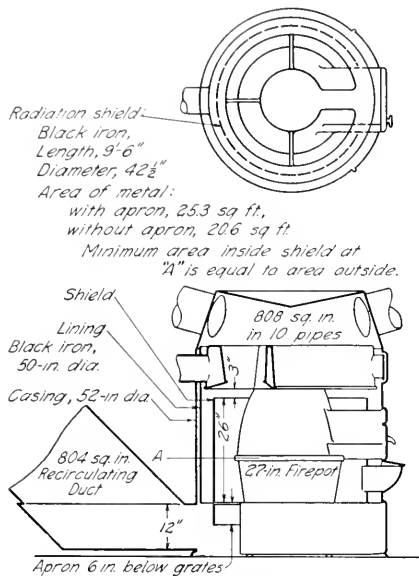
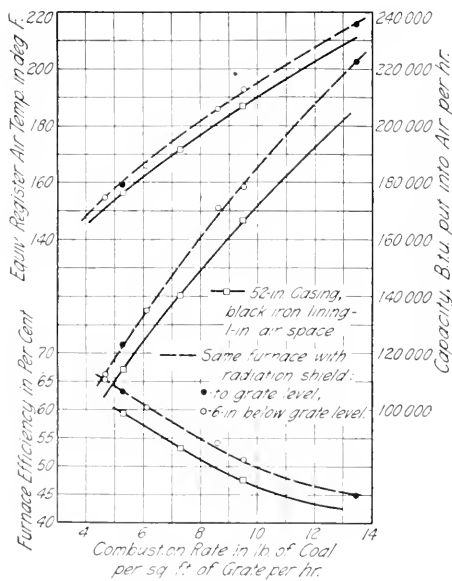

FIG. 4. SECTION OF FURNACE SHOWING LINING AND RADIATION SHIELD
FIG. 6. PERFORMANCE OF FURNACE WITH RADIATION SHIELD
The house-part contains the only fireplace and consists of a single bay sixteen feet long and about thirteen feet broad, the crucks being in the usual positions. In the plan in Fig. 4, the bases of the crucks are shown by the letter "C." Within the doorway is a covered inner porch, with a screen which keeps the wind out and protects the house-part from the gaze of the stranger and from the wind when the outer door is opened. This screen is known as the "speer." A wooden bench is fixed against the inner side of the spear, so as to form a seat. The top of the spear forms a large shelf for holding dishes, pots, and other things. The
However, it is but a short step from model work to the making of a small airplane like the 250 pound Dora May, or flying bathtub, with a Henderson motorcycle engine (Fig. 4). Another step beyond this and really not far removed from the model is the large plane of the type of the Heath Favorite and many others of the commercial types. The principles of the Barling Bomber (Fig. 5) also are the same as those in the smallest model airplane. There are a number of principles upon which size has no effect. The model fliers know these many principles well, and are potential designers of larger aircraft.
**Radiation Shield.**—A third test made with a cylindrical shield of black iron, located as shown in Fig. 4, showed that such shields placed adjacent to the hottest surfaces, so as to intercept a large part of the radiant heat, improved furnace performance. This is true when the increased heating effect and the increased motive head due to the flow of air of higher temperature are not offset by the resistance of the shield to the flow.
In the tests, the shield of black sheet iron was so located as to divide equally the area of the air stream at the elevation of the top of the firepot. As shown in Fig. 4 the shield carried a detachable apron which extended 6 inches below the level of the grates. The results of the tests on this equipment are embodied in the curves of Figs. 6 and 7. From these curves the following conclusions may be drawn:
- (b) No difference could be detected between the performances with the short and the long shields. This fact may be observed in Figs. 6 and 7 in which points representing tests with both types of shields lie on a common curve.
Each of the thirty-seven wells has an electrically driven pump which lifts the water from the well and forces it into an underground pipe which terminates at the 250,000 gallon receiving tank shown in Fig. 1. Fig. 3 shows clearly how these pipes project over the edge of this tank. A spray board, Fig. 4, attached to the end of each of these pipes causes the water to splash in such a way that it comes into contact with much air, thereby oxidizing the ferrous iron to the ferric iron. The brown particles of the latter give the water in the tank a muddy appearance.
When the filters are being washed, as has been explained, the wash water flows to the 90,000 gallon wash water basin, which is shown in Fig. 4 and in the center of Fig. 1. After the five filters have been washed, the tank is about filled to capacity. A pailful of alum dissolved in water is then added to the tank to coagulate the suspended matter, which gradually settles to the bottom. The water in the wash water basin is next pumped over into the 250,000 gallon tank and refiltered. The sediment is pushed into a sewer in one corner of the basin. During the washing no water flows into the storage tanks, but before these are emptied, filtration has been resumed.
Fig. 6 shows one of the 750,000 gallon, concrete storage tanks with the filter house to its right. As the figure shows, most of the tank is underground and the top is covered. This almost airtight roof acts as an insulator from heat, also protecting the water from rain, dust, and insects. Being underground, the tank tends to keep the water cool and fresh.